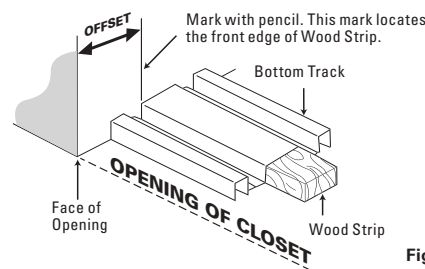

Figure 2
- Find the correct offset measurement, using the offset measurement chart, for your particular model. From the front edge of the opening, measure using the offset from the chart and make a small pencil mark on the wall. Do this on both walls, i.e., right and left walls (See Figure 2).